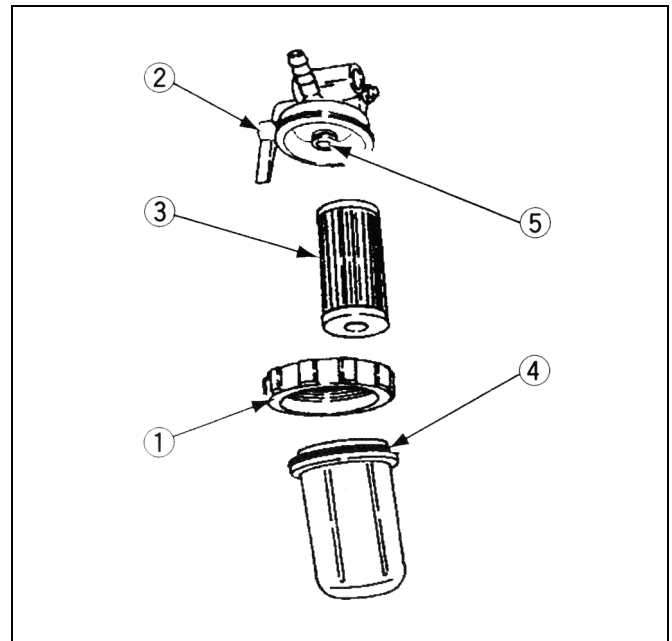

Figure 4-12
1. Make sure there is adequate fuel in the fuel tank and close the fuel shutoff valve (the handle should be pointing to the "C" position.) Remove the fuel sediment bowl. Figure 4-12
1. Close the shutoff valve (the handle should be pointing to the "C" position). Figure 4-12
2. Remove the sediment bowl by rotating the retaining nut Ref. No. 1. Figure 4-12
3. Open the fuel shutoff valve Ref. No. 2, to drain any remaining water from the tank. Figure 4-12
4. Discard the fuel element Ref. No. 3, and install a new element. Figure 4-12
5. Inspect the O rings Ref. No. 4 & 5 and replace if necessary. Figure 4-12
7. Open the fuel shutoff valve (the handle should be pointing to the "O" position), so fuel will flow to the filter. Figure 4-12